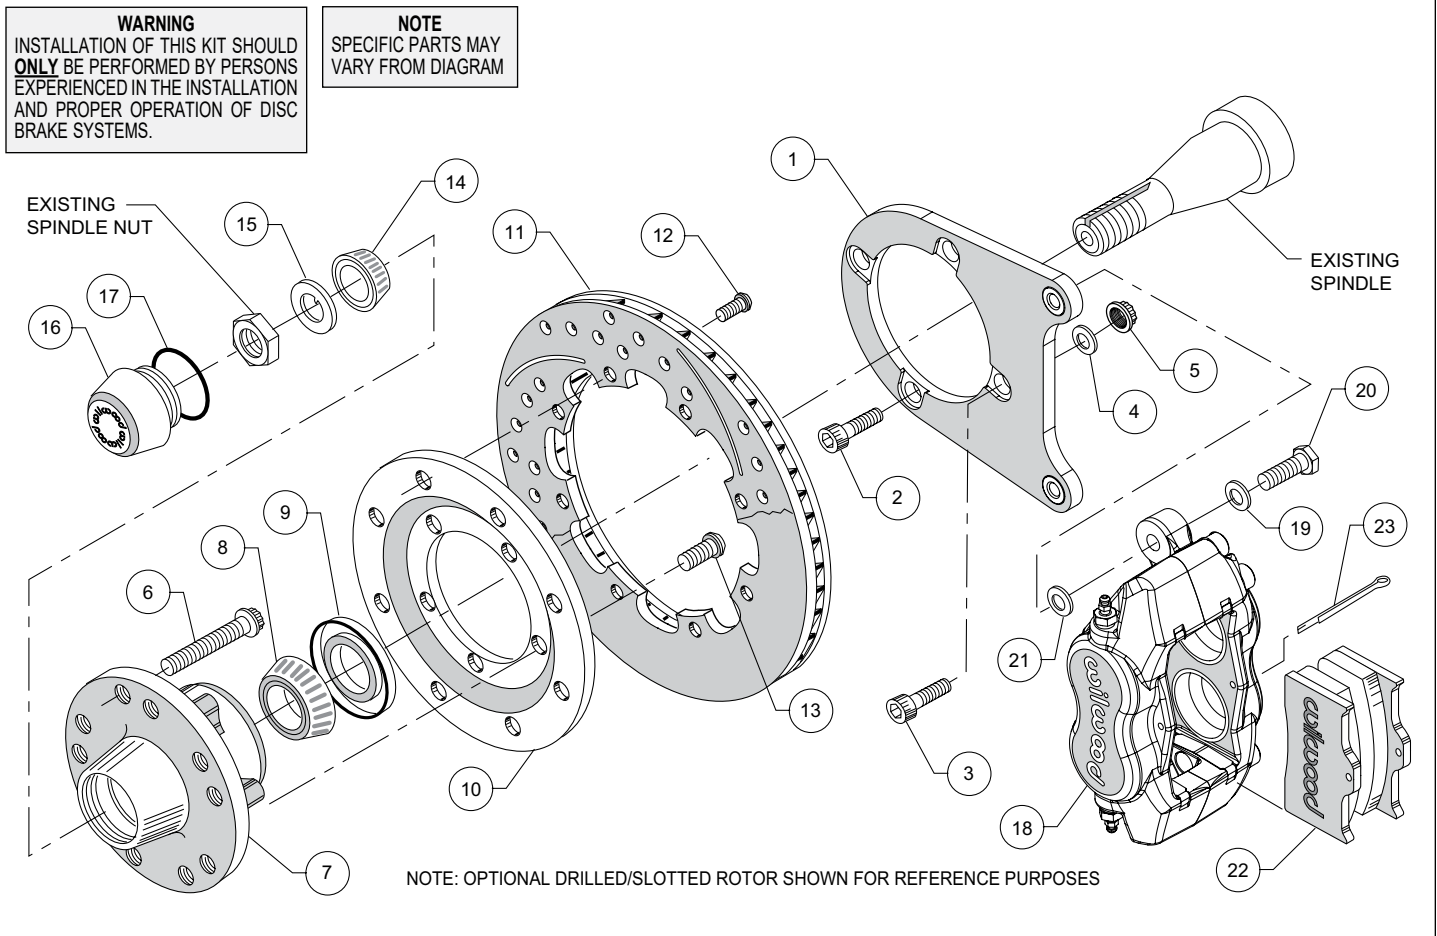

Figure 1. Typical Installation Configuration
**NOTE:** Numbers in parenthesis refer to the parts list and Figure 1 on the preceding pages.
- Orient the caliper mount bracket (1) as shown in Figure 1. Install using bolts (2) threaded into the steering arm and bolts (3), washers (4), and locknuts (5), Figure 1. Ensure that the flanged heads of the clinch nuts in the bracket are facing outboard, Figure 1. Temporarily tighten the mounting bolts. **NOTE:** The bracket must fit squarely against the mounting points on the spindle. Inspect for interference from casting irregularities, machining ridges, burrs, etc. Torque locknuts (5) to 65 ft-lb. Apply red *Loctite*® 271 to the threads of bolts (2) and torque to 80 ft-lb.
- Install wheel studs (6) into the hub (7). Torque to 77 ft-lb. **NOTE:** There are two five lug patterns in the hub (5 x 4.50 and 5 x 4.75). Make sure of the correct hole pattern for the correct wheel application before installing studs into hub.
- Pack the large inner bearing cone (8) with high temperature disc brake bearing grease (available from your local auto parts store) and install into the backside of the hub (7).
- Install the grease seal (9) by pressing into the backside of the hub (7).
- Orient the rotor (11) and the rotor adapter (10) as shown in Figure 1. Attach the rotor to the adapter using bolts (12). Using an alternating sequence, apply red *Loctite*® 271 to the threads, and torque to 25 ft-lb.
- Mount the adapter/rotor assembly (10/11) to the hub (7) using bolts (13), as shown in Figure 1. Using an alternating sequence, apply red *Loctite*® 271 to the threads, and torque to 45 ft-lb.
- Pack the small outer bearing cone (14) with high temperature disc brake bearing grease and install into front of hub (7). Slide the hub/rotor assembly (7 and 11) with outer bearing cone (14) onto the spindle. Secure using new spindle washer (15), your adjusting nut and nut locking device. Adjust bearings per Original Equipment Manufacturer (OEM) specifications.
- Install the dust cap (16) onto the hub (7). Friction created by the o-ring (17) on the dust cap (16) keeps it from unscrewing. Be sure the spindle washer (15) seats properly against the hub face.